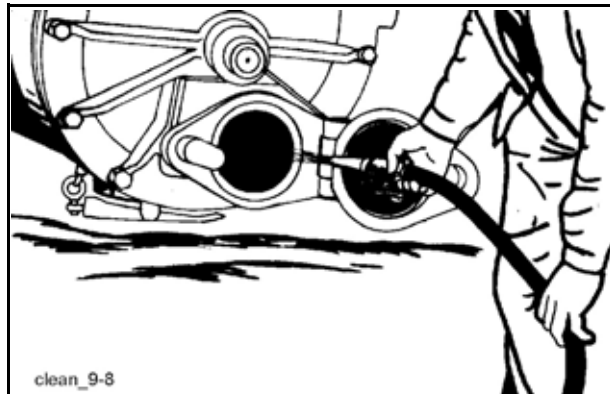

Fig. 239 Clean concrete filling hopper
- Clean the agitator, gate valve housing, outlet, etc. using a strong water jet. Only hold the water jet and not the hose nozzle inside the opening of the gate valve housing (**Fig. 239**).